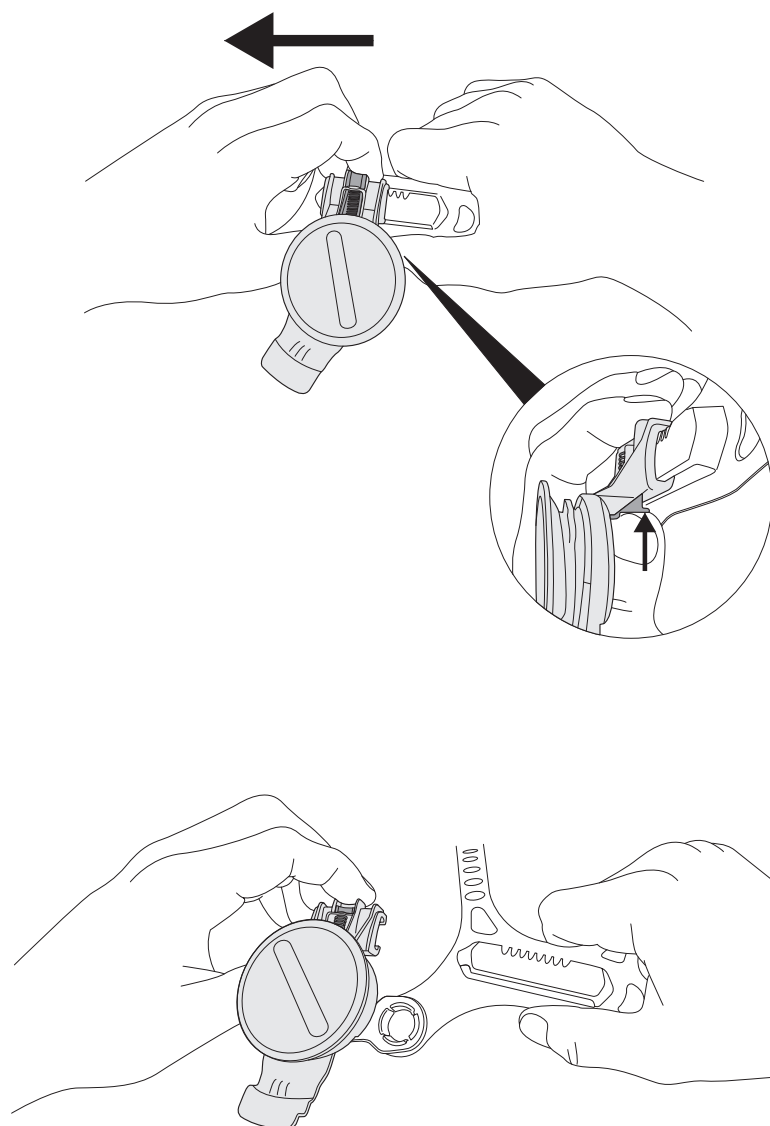

Fig. 25a
- With the headgear suspension removed (see “Welding Helmet Donning & Fitting”, #3) push up on the gray slide lock button, slide the pivot mechanism toward the back (toward the headgear adjustment knob) of the slide rail and with your thumb, push it off the slide. This action will take some force (Fig. 25a).